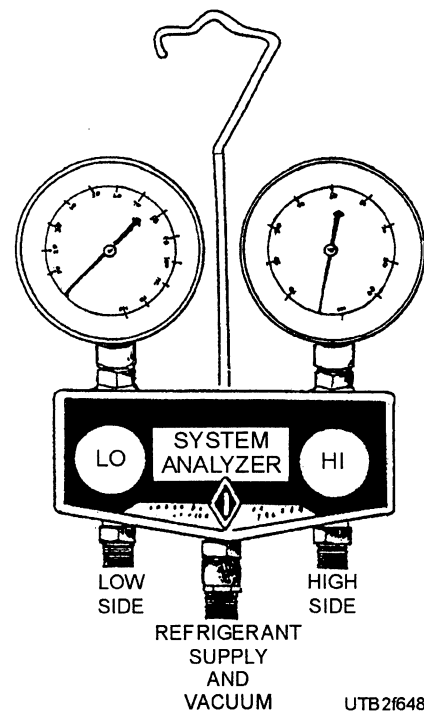
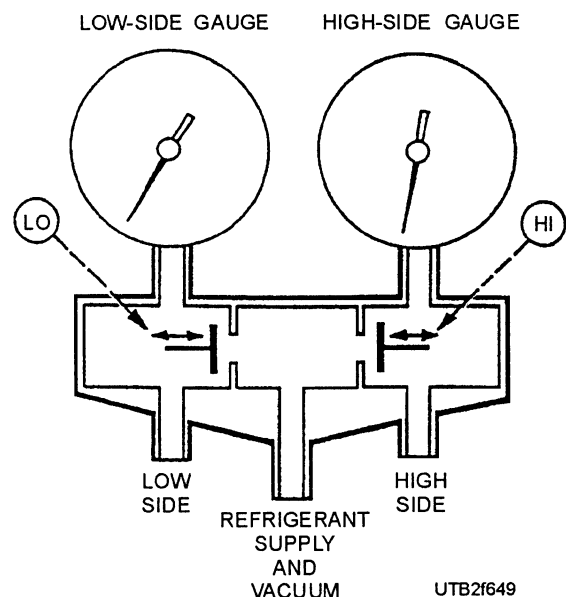

Figure 6-48.—Refrigerant gauge manifold set.
Figure 6-49.—Internal view of a refrigerant gauge manifold set.
Repair and service work on a refrigeration system consists mainly of containing refrigerant and measuring pressures accurately. One piece of equipment is the refrigerant gauge manifold set (fig. 6-48). It consists of a 0-500 psig gauge for measuring pressure at the compressor high side, a compound gauge (0-250 psig and 0 to -30 inches of mercury) to measure the low or suction side, and valves to control admission of the refrigerant to the refrigeration system. It also has the connections and lines required to connect the test set to the system. Depending on test and service requirements, the gauge set can be connected to the low side, the high side, a source of vacuum, or a refrigerant cylinder. A swiveling hanger allows the test set to be hung easily, and the three additional blank connections allow for securing the open ends of the three lines when the gauge set is not in use. There is always a path from the low-side and high-side input to the low-side and high-side gauge (fig. 6-49).
1. Connect the portable vacuum pump to the vacuum fitting on the refrigerant manifold gauge set (fig. 6-48).